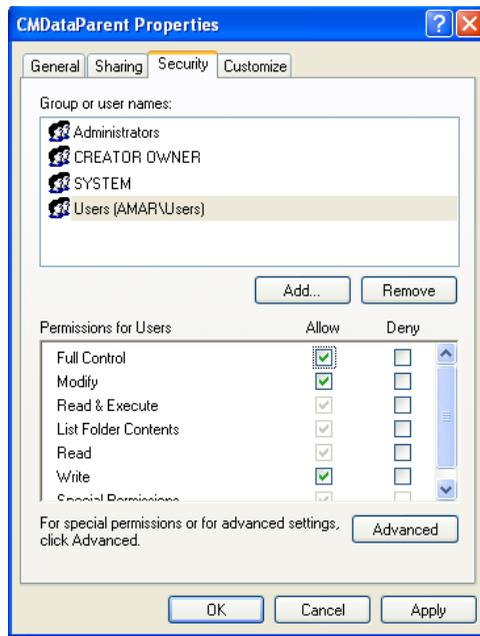

Figure C-5. Selecting Access Rights to the Datasource Parent Folder
- b. Click the **Security** tab (see Figure C-5).